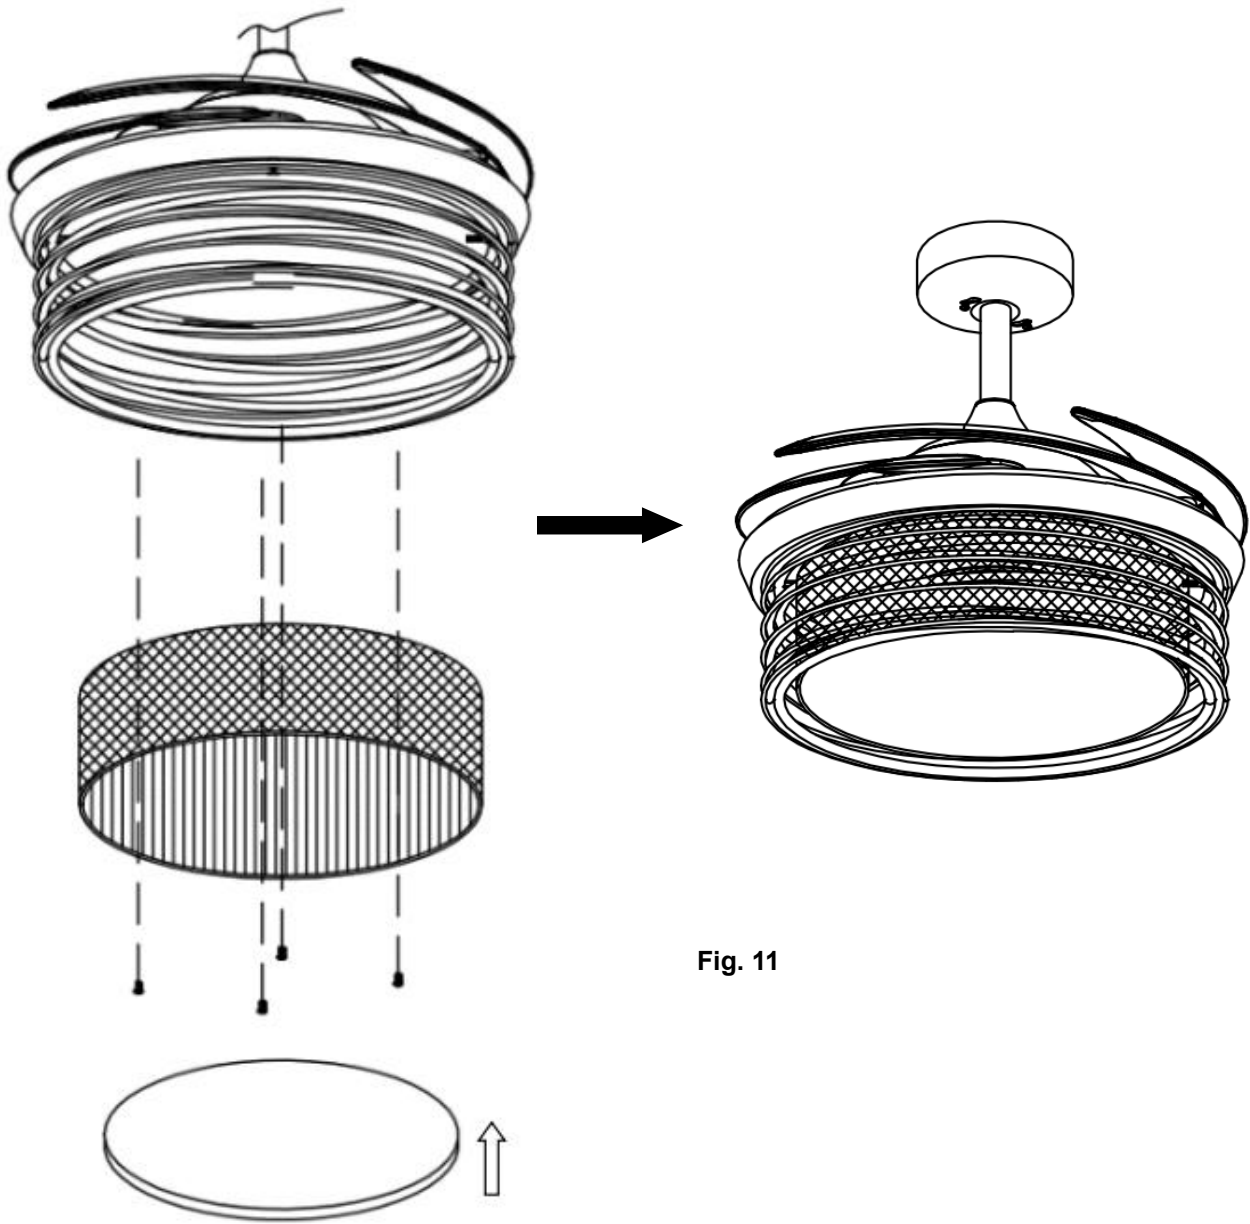

Fig. 11
3. Secure the lamp shade to the light kit bracket plate by tightening the 4 screws. Do not over-tighten. install the lamp shade cover onto the lamp shade. (Fig. 11).